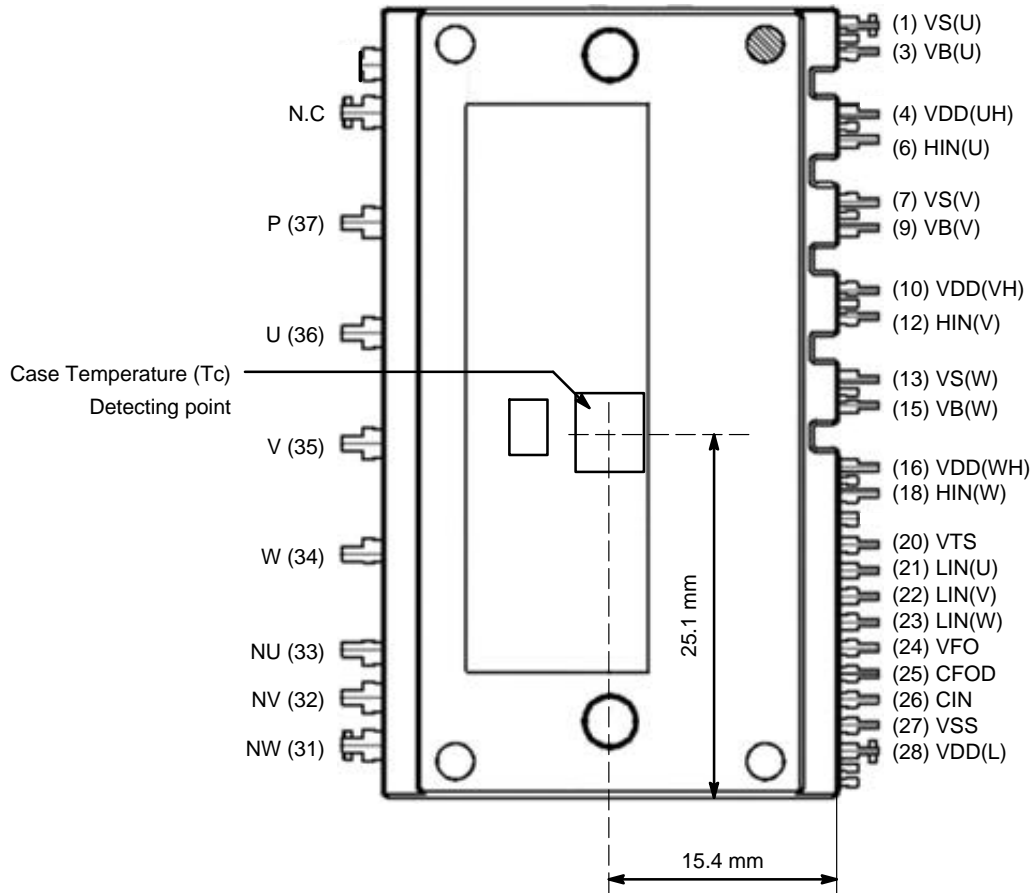

Figure 1. Pin Configuration – Top View
- For the measurement point of case temperature (Tc), please refer to *Figure 1*.